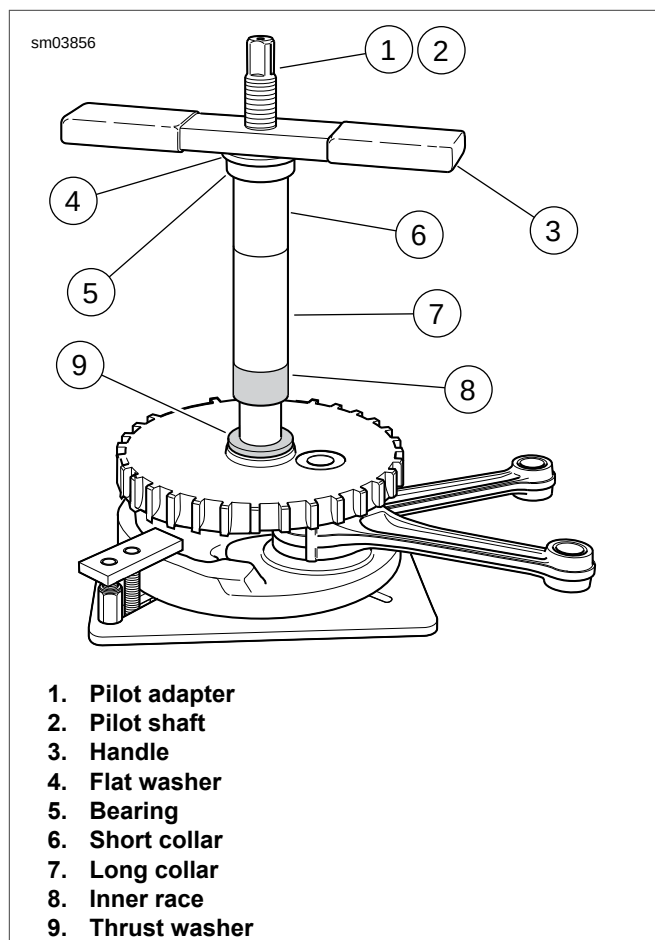

Figure 3-143. Press Inner Race onto Sprocket Shaft: Setup
- g. See Figure 3-143. Thread handle onto pilot shaft.